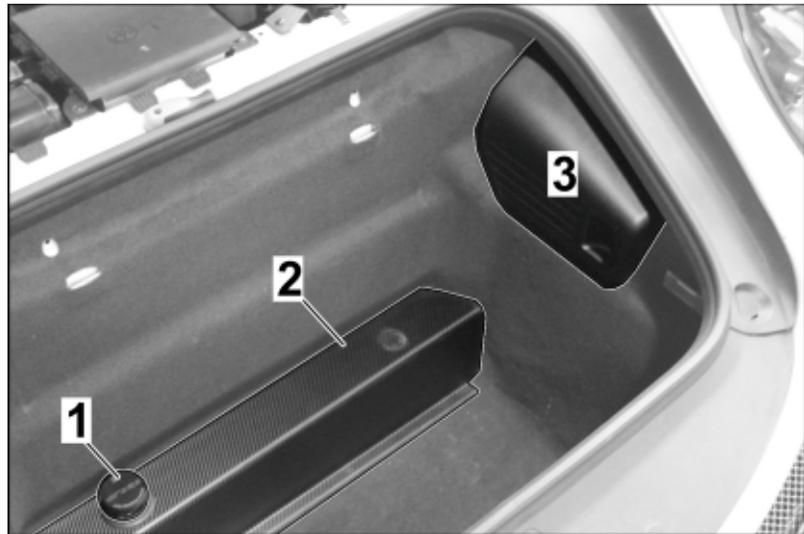

Figure 76
- 10.1.4 Carefully remove carbon trim on standard tank (⇒ *Figure 76 -2-*) by detaching hook-and-loop fasteners.
- 10.1.5 Carefully remove tool kit bracket (⇒ *Figure 76 -3-*).